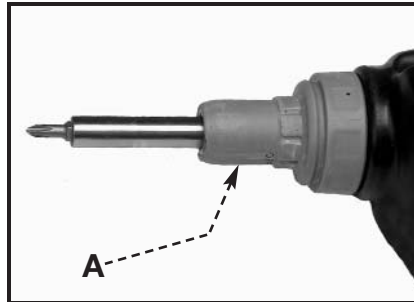

Fig. 3
Periodically, check the screwdriver clutch jaws for wear. To make this inspection, remove the clutch housing (A) Fig. 3 from the power unit.